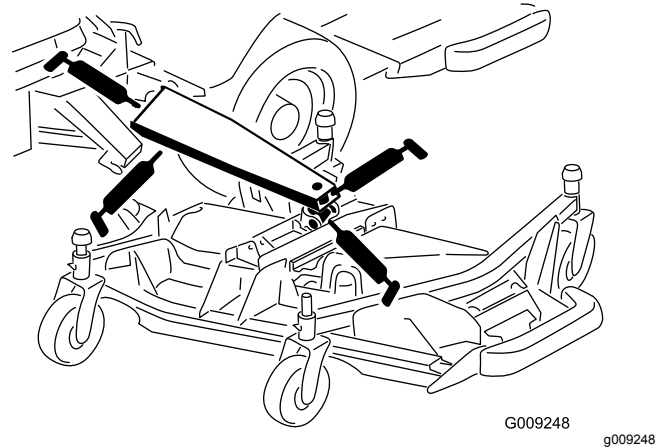

Figure 83
- 3 main lift-arm bushings (Figure 83)
- 1 lift-cylinder bushing (Figure 83)